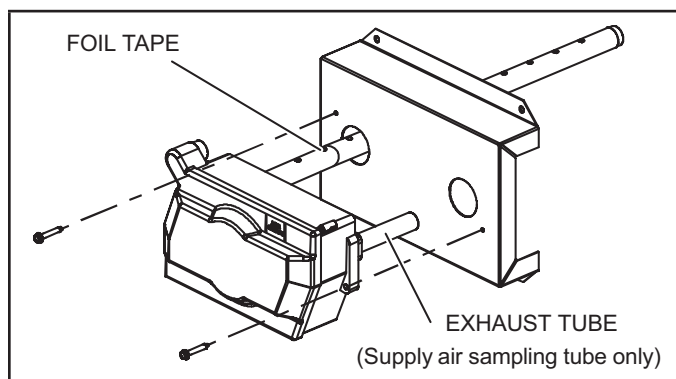

FIGURE 3 Foil tape installation
- 3 - Apply foil tape to cover first two holes closest to the sensor of supply air sampling tube (see FIGURE 3).